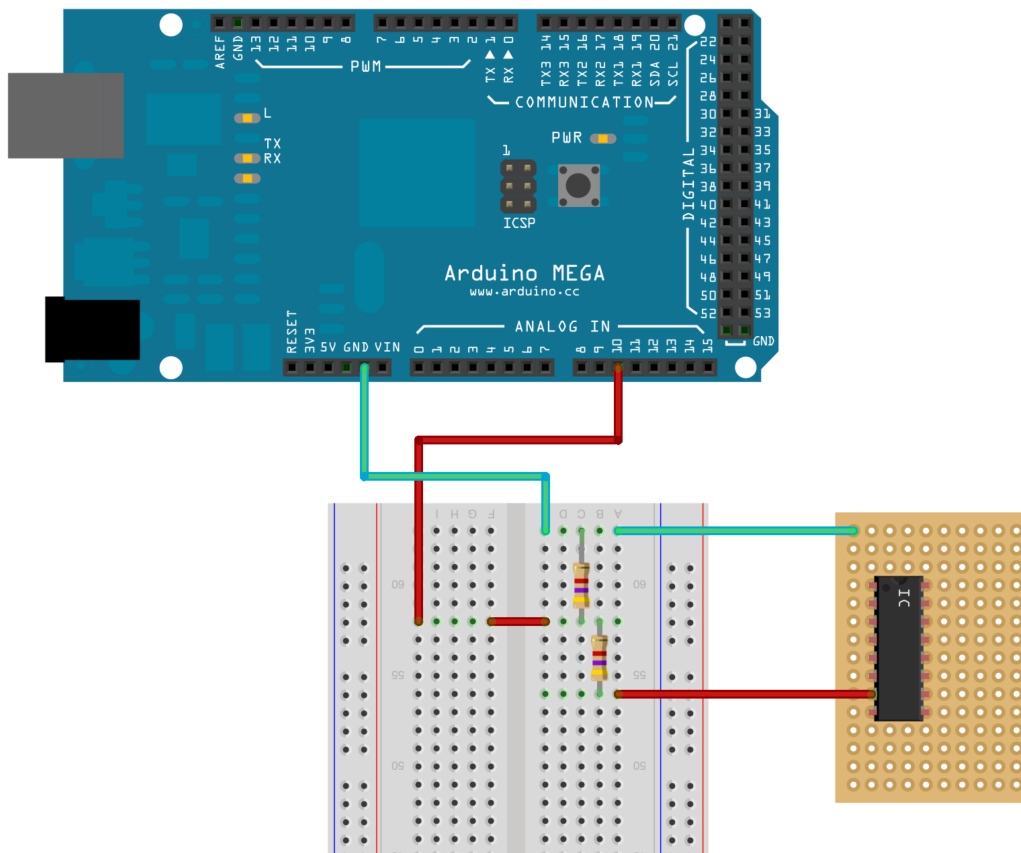

Figure 2 - Breadboard view.
- Connect the newly soldered ground (black) wire and pin 7 (red) wire to the coupling plate as shown in Figure 2.